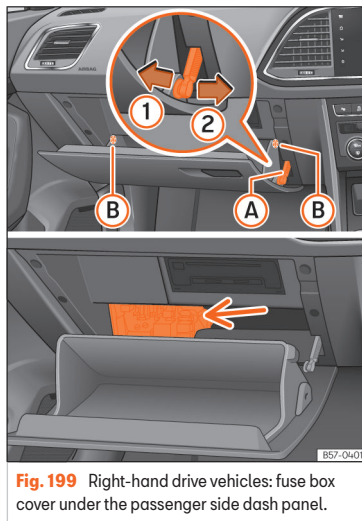

Fig. 199 Right-hand drive vehicles: fuse box cover under the passenger side dash panel.
- Undo the opening limiter >>> **Fig. 199 A** in two steps: first, unlock the limiter by pulling back on it (arrow ①) and then move it gently to the right (arrow ②). Remove the guide when the cover is in the normal opening position (30°).
- Free the side pivots (B) to release the cover to its second opening position (60°).